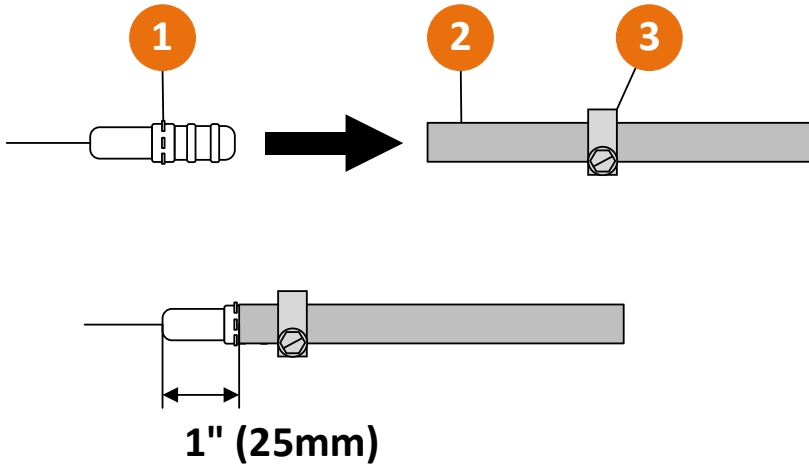

Figure 12
- Regarding 1/2" CTS water lines for connections to 12mm push-fit system: Install an adaptor; see figure 12.